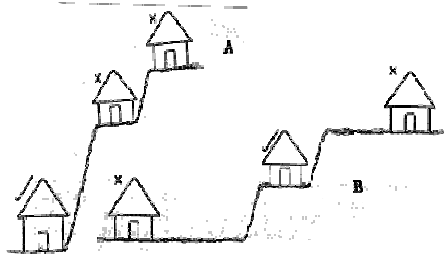
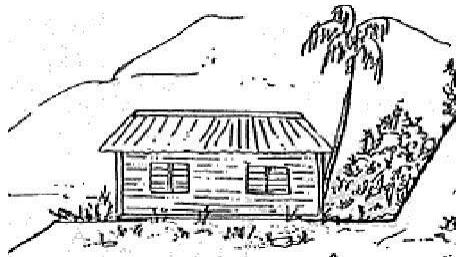

Figure 4.3: Avoid locations marked with an x
Figure 4.4: If a steep Slope cut into the earth like this.
4.4 Avoid building on steep hillsides where there is very little shelter from high wind, especially on slopes facing the sea. (Building on steep hill sides should be avoided all together) But if it cannot be avoided the hillside should be cut as shown in Fig. 4.3 a, b. & Fig. 4.4. It is more suitable to build in areas, which provide natural shelter from high winds.